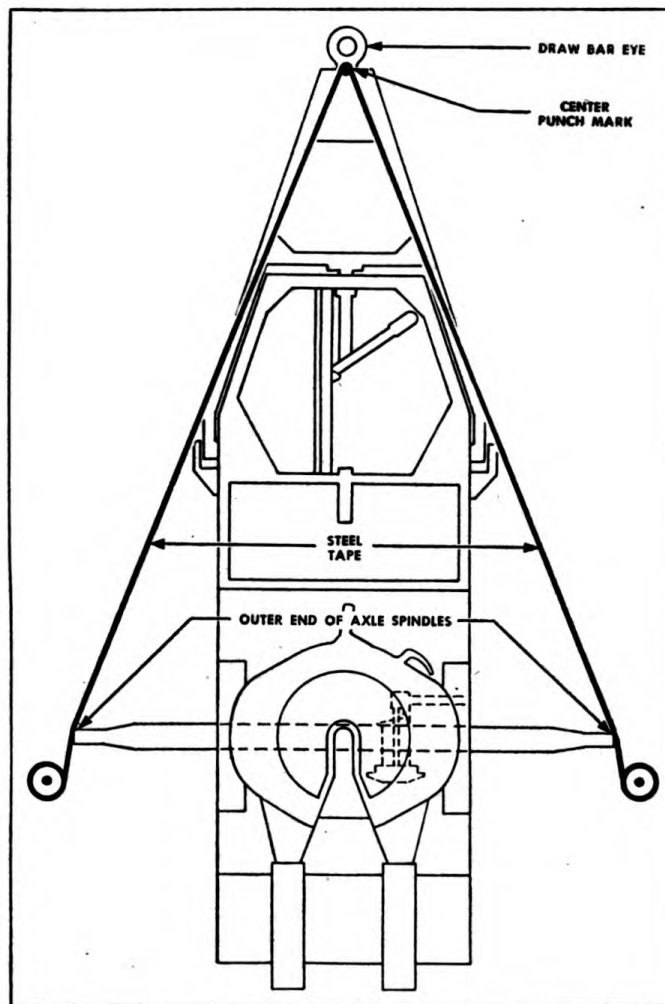

FIGURE 18. AXLE ALIGNMENT—DOLLY.
7. **AXLE ALIGNMENT—DOLLY** (Fig. 18).—*a.* Place drawbar in the locked position.